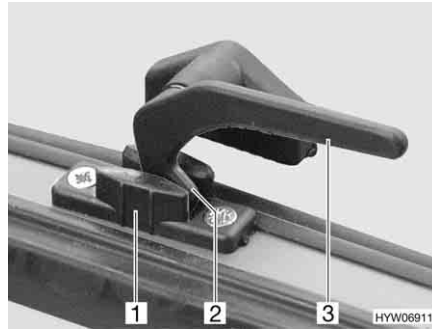

Fig. 72 Catch lever in the "continuous ventilation" position
- "Continuous ventilation" (Fig. 72)
- Turn the catch lever (Fig. 72,3) a quarter turn towards the centre of the window.
- Return the catch lever to its initial position. The locking catch (Fig. 72,2) has to be moved into the recess of window catch (Fig. 72,1).